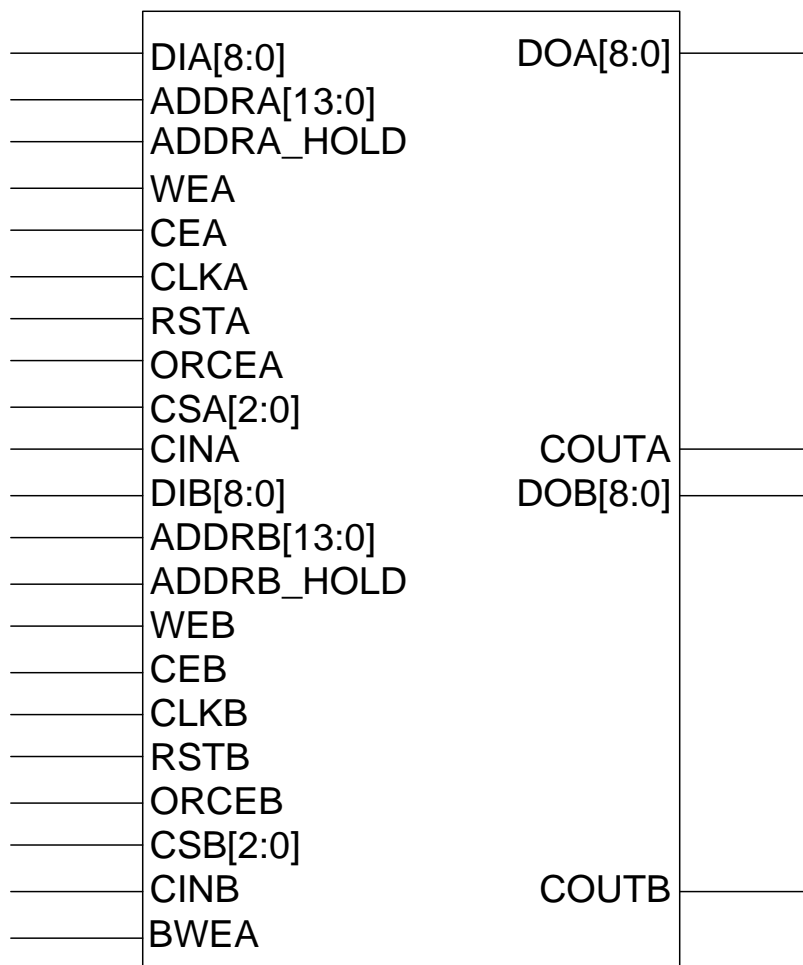

Figure 4-13 GTP_DRM9K_E1 Structure Block Diagram
GTP_DRM9K_E1 supports 9Kbits storage, with various operating modes including True Dual Port (DP) RAM, Simple Dual Port (SDP) RAM, Single Port (SP) RAM and ROM mode. The DRM supports configurable bit width and dual-port mixed bit width in both DP RAM and SDP RAM modes. The structure block diagram is shown in Figure 4-13.